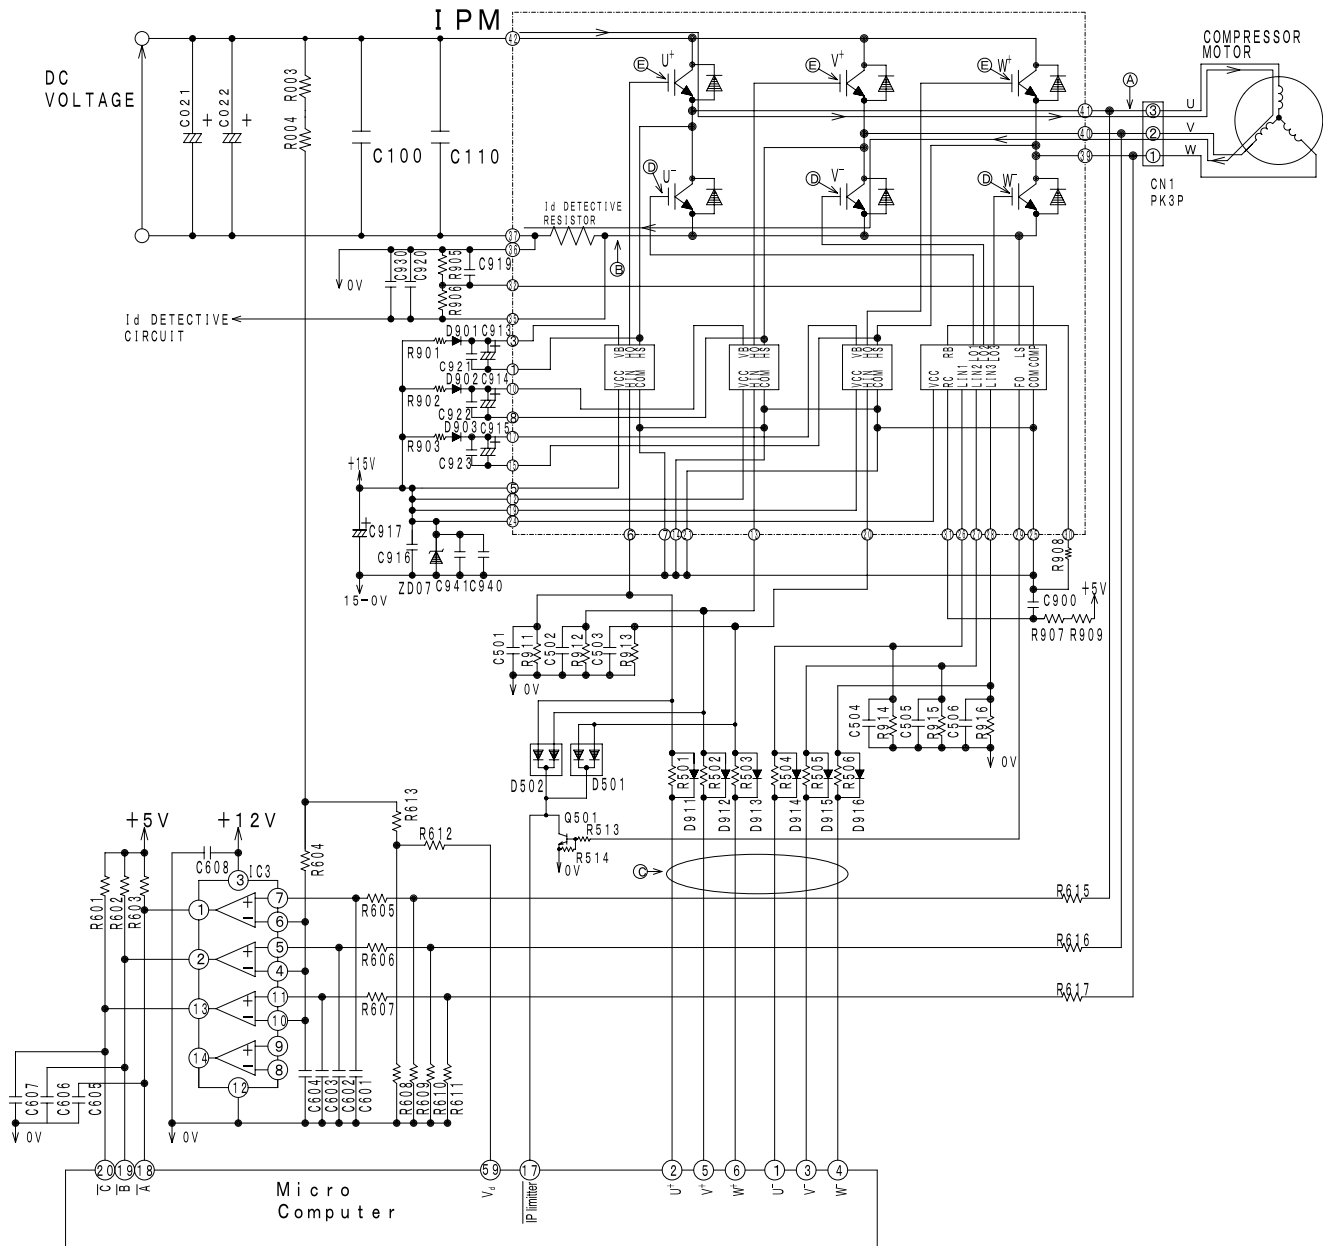
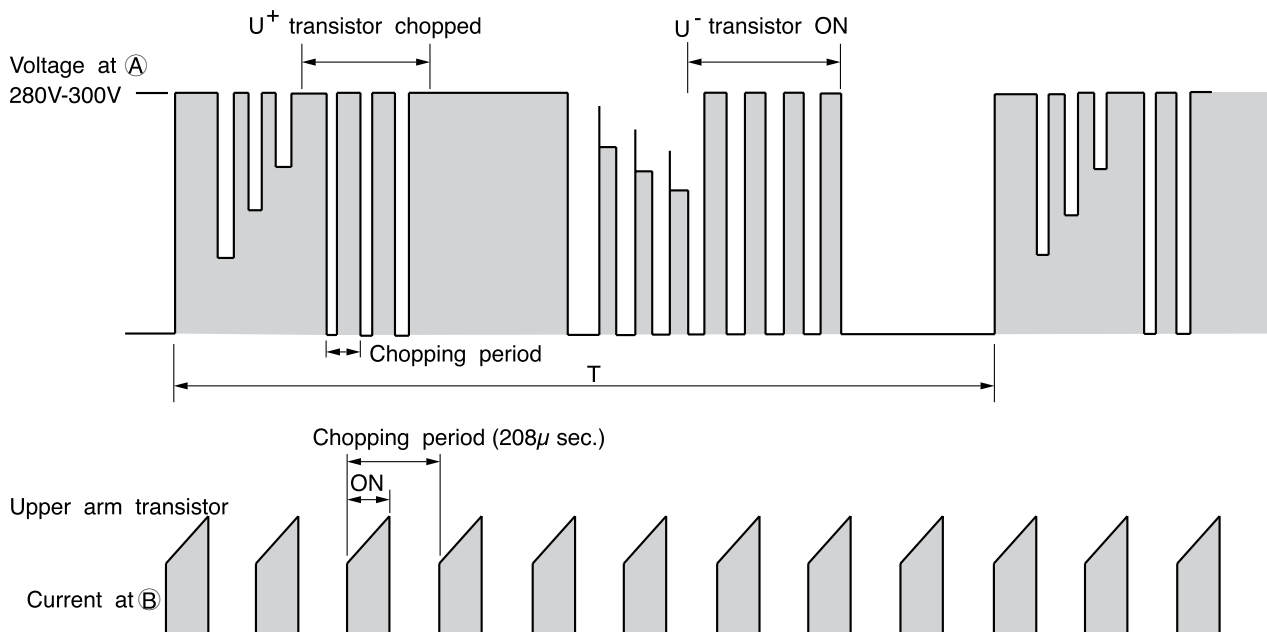

Fig. 4-1 Intelligent power module circuit (U^+ is ON, V^- is ON)
Fig. 4-3 Voltage waveform at each point
- Fig.4-1 shows the intelligent power module and its peripheral circuit.
At point ⑤: U⁺ is ON, V⁻ is ON (circuit in Fig.4-1)
Fig. 4-3 shows voltage waveform at each point shown in Figs. 4-1 and 4-4. First half of upper arm is chopper, second half is ON, and first half of lower arm is chopper, second half is ON.
- (1) When U⁺ transistor is ON: U⁺ transistor → U coil → V coil → V⁻ transistor → DC current detection resistor → Point ⑤ (Fig. 4-1)
Since current flows at point (B) only when U⁺ transistor and V⁻ transistor is ON, the current waveform at point (B) becomes intermittent waveform as shown in Fig.4-3. Since current at point (B) is approximately proportional to the input current of the air conditioner, input current is controlled by using DC current (Id) detection resistor.